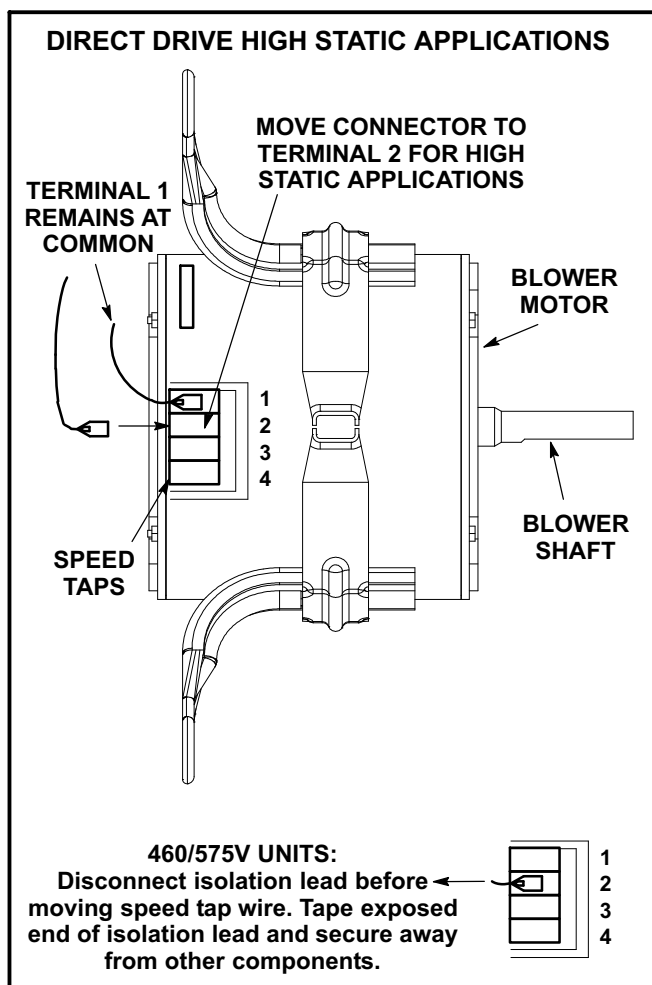

FIGURE 7
- 4- Use the blower tables starting on Page 7, measured static pressure and the factory-set blower speed to determine CFM. If CFM is lower than the design specified CFM, move the lead from speed tap 3 or 4 to speed tap 2. See figure 7.
For 460/575V units, remove the isolation lead from speed tap 2 before moving the wire to speed tap 2. Tape the exposed end of the isolation lead and secure away from other components. See figure 7.